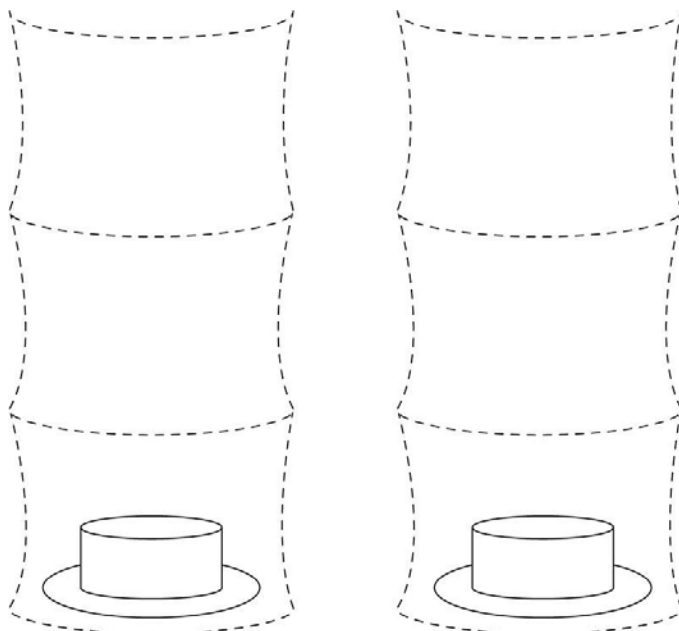

Fig 4. Recommended minimum diameter 75mm
- The drying oven's vents can also be connected to a ventilation system whether it is exhaust only or both inlet and exhaust. To do so, you must first remove the vent covers (**Fig 4**).
- To prevent a potential pressure drop, please ensure that the pipe is no smaller than 75mm in diameter for proper ventilation (**Fig 4**).